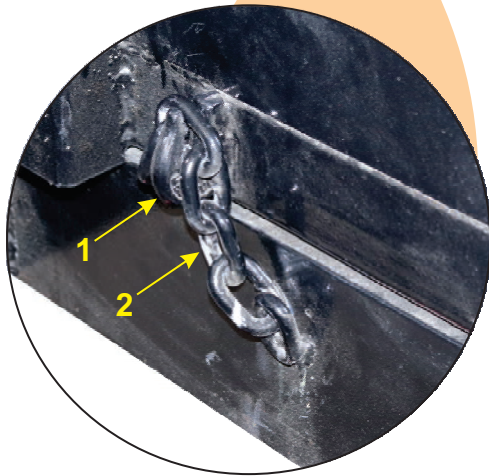

Figure 3-11 – Trailer Dump Body Latch Chain Locked
- **To prevent uncontrolled trailer raising while traveling, secure the dump body to the trailer frame using the latch hook (1, Figure 3-11) and chain (2, Figure 3-11).**
- e. Using the chain hook (1, Figure 3-11) welded to the trailer dump body, make sure the trailer tilt latch chain is secured in the transport position (2, Figure 3-11). This chain will prevent the trailer dump body from bouncing or raising while in transit.